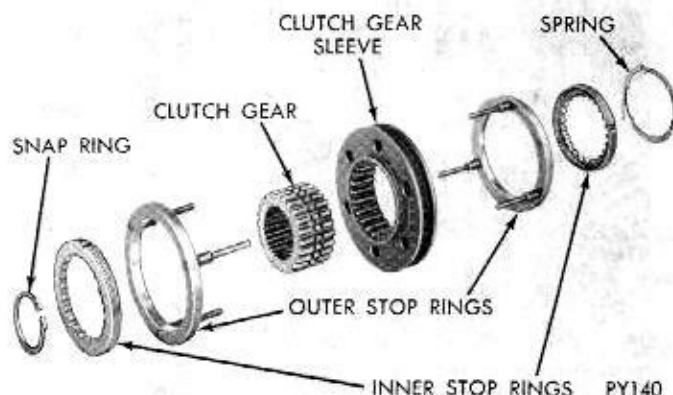
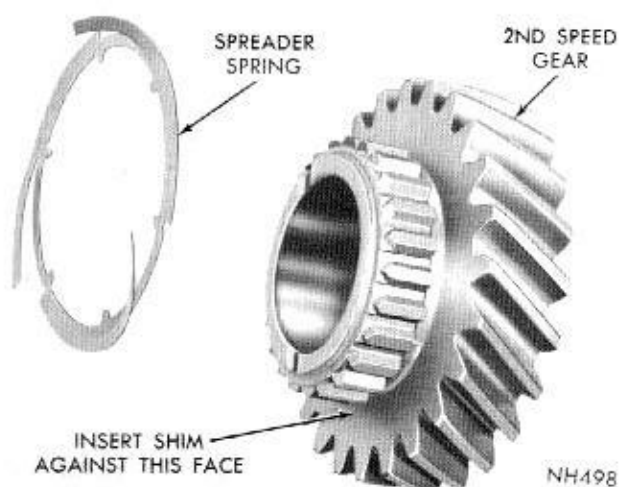

Fig. 24—A-903 Synchronizer—Disassembled
Fig. 28—Synchronizer Shim Location
(5) Now remove the synchronizer parts (Fig. 24)
(3) Arrange all the synchronizer parts (Fig. 24) with second gear (Fig. 28) and shift fork, so they may be held in one hand as a package.
(8) In cases where synchronizer "float" measurement is above .117 inch, synchronizer shims should be installed to reduce "float" to .117 inch or less. Install shim on shoulder of second speed gear, before spreader spring is installed (Fig. 28).